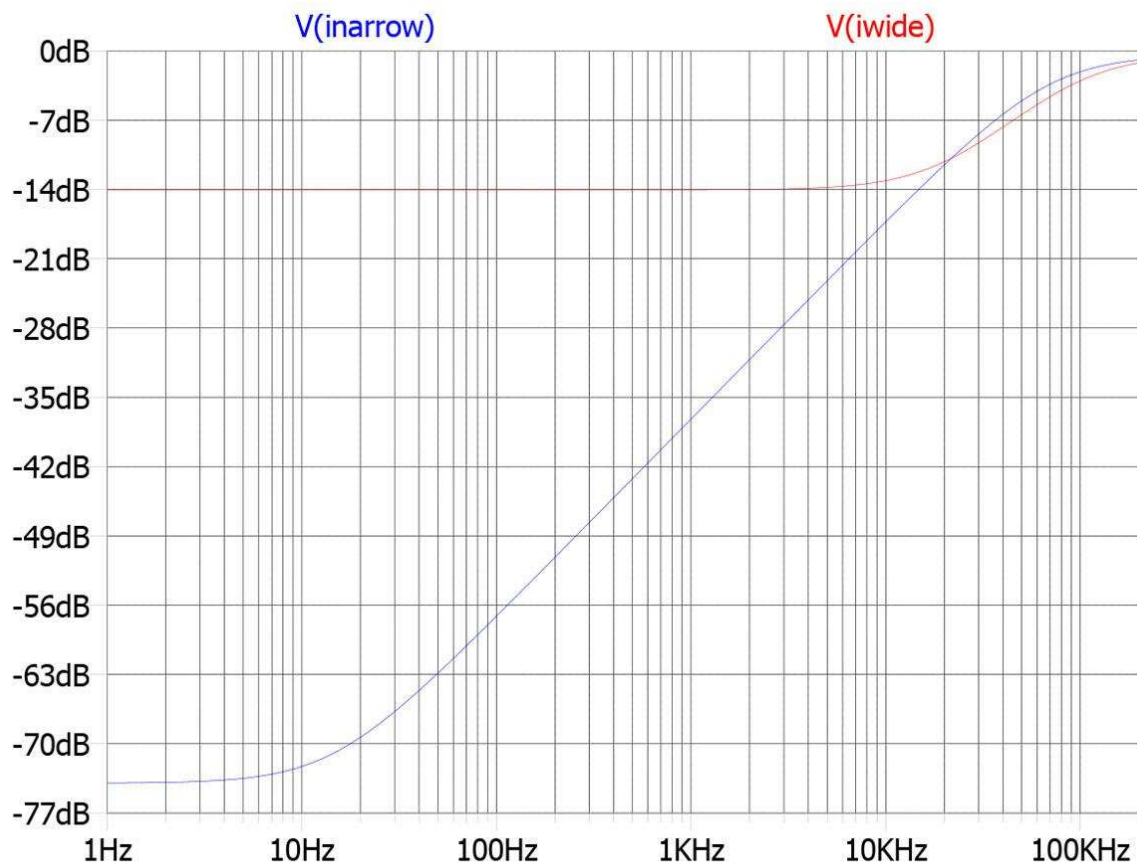

Figure 4: Input signal levels for equal output levels for the wideband case (top) and narrow band case.
For the narrowband case, below 20Hz, the input voltage for the same 20Vrms output will only be about 200μVrms and will rise with frequency until it also reaches 200mVrms at 20kHz. The two plots are shown in Figure 4.
1) At 20kHz, the narrow band case is already at its flat portion, while the wideband case just started to roll off so there are some minor differences, which are also visible in Figure 4. However, these do not change the conclusions.